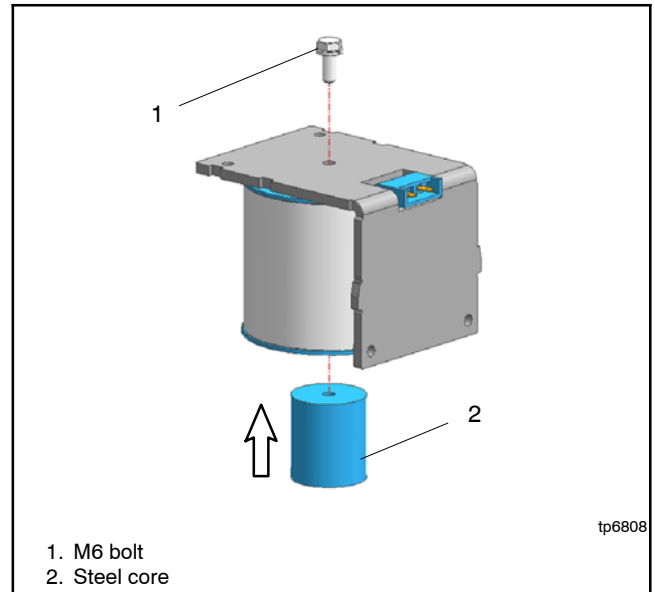

Figure 7-59 Create Coil Assembly
2. Insert the steel core into the coil and tighten the M6 bolt to create the coil assembly. Tightening torque for the M6 bolt: 6 Nm. See Figure 7-59.